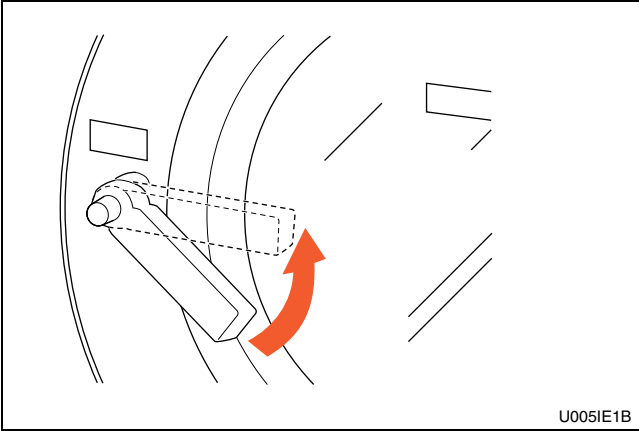

Figure 11
- 4. Close door and turn handle counterclockwise until button pops out. Refer to *Figure 11*.